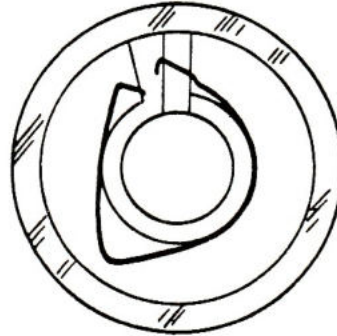

Fig. 3
- D. Cylinder Retaining Spring (see Fig. 3)